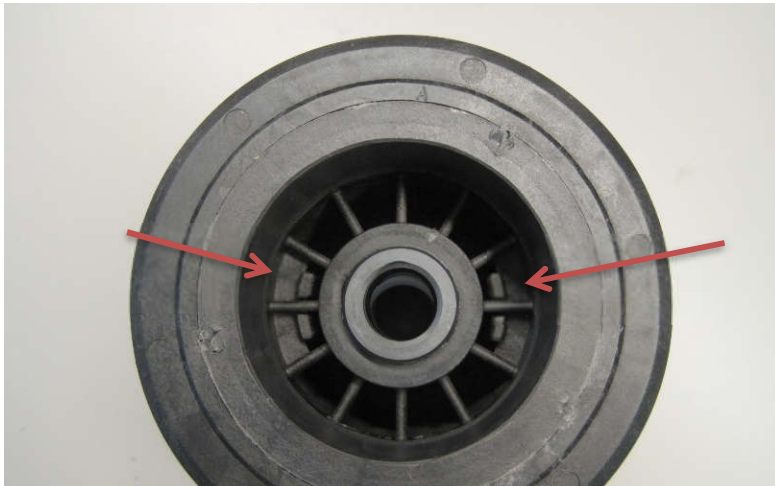

Fig. 2
2. From the drive end locate the snap-fit prongs on either side of the bushing. See figure 2 below.